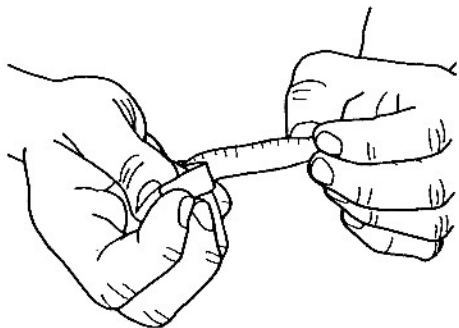

Fig. C-21
47. Remove about 5" of backing from the measuring tape (provided with the fence), as demonstrated in Fig. C-21. Position the start line of the tape ("0" inches) in line with the 4-1/4" pencil mark. With the tape about 1/8" out from the edge of the saw table, keep the tape straight, and carefully press the first few inches of the tape to the top of the rail.